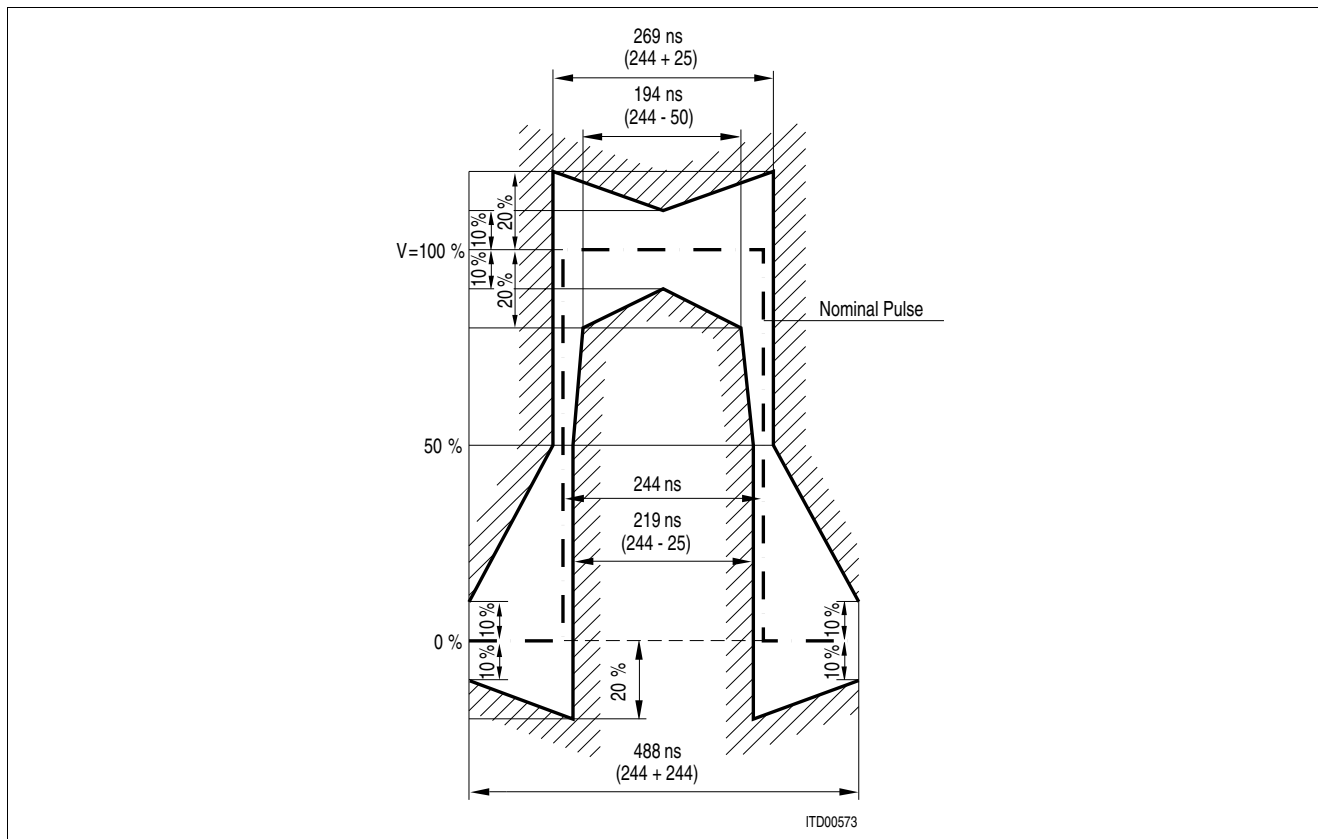

Figure 63 E1 Pulse Shape at Transmitter Output
- For E1: ITU-T G703 11/2001, figure 15 (for 0 m cable length), see Figure 63; ITU-T G703 11/2001, figure 20 (for DCIM mode). For measurement configuration were $R_{load} = 120 \Omega$ or $R_{load} = 75 \Omega$ see Figure 39.
With the given values in Table 30 or Table 32, for transformer ratio: 1 : 2.4, cable type AWG24 and with $R_{load} = 120 \Omega$ the pulse mask according to ITU-T G703 11/2001, see Figure 63, is fulfilled.